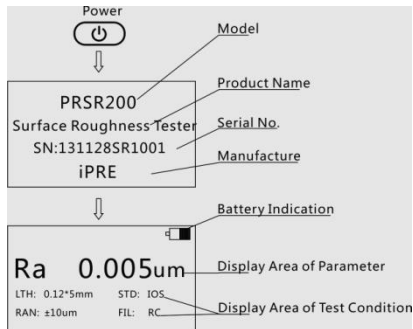

Figure 2-4 Boot Process
Press and release Power key  to switch on. The instrument automatically displays model, name and information of manufacturer, and then enters basic measurement status, as shown in Figure 2-4.
1. *Contents of basic measurement status entered in the first switch-on are factory settings of this instrument. Settings and data of last switch-off will be displayed in the next switch-on. Basic measurement status will be entered automatically for each switch-on (as shown in Figure 2-4).*